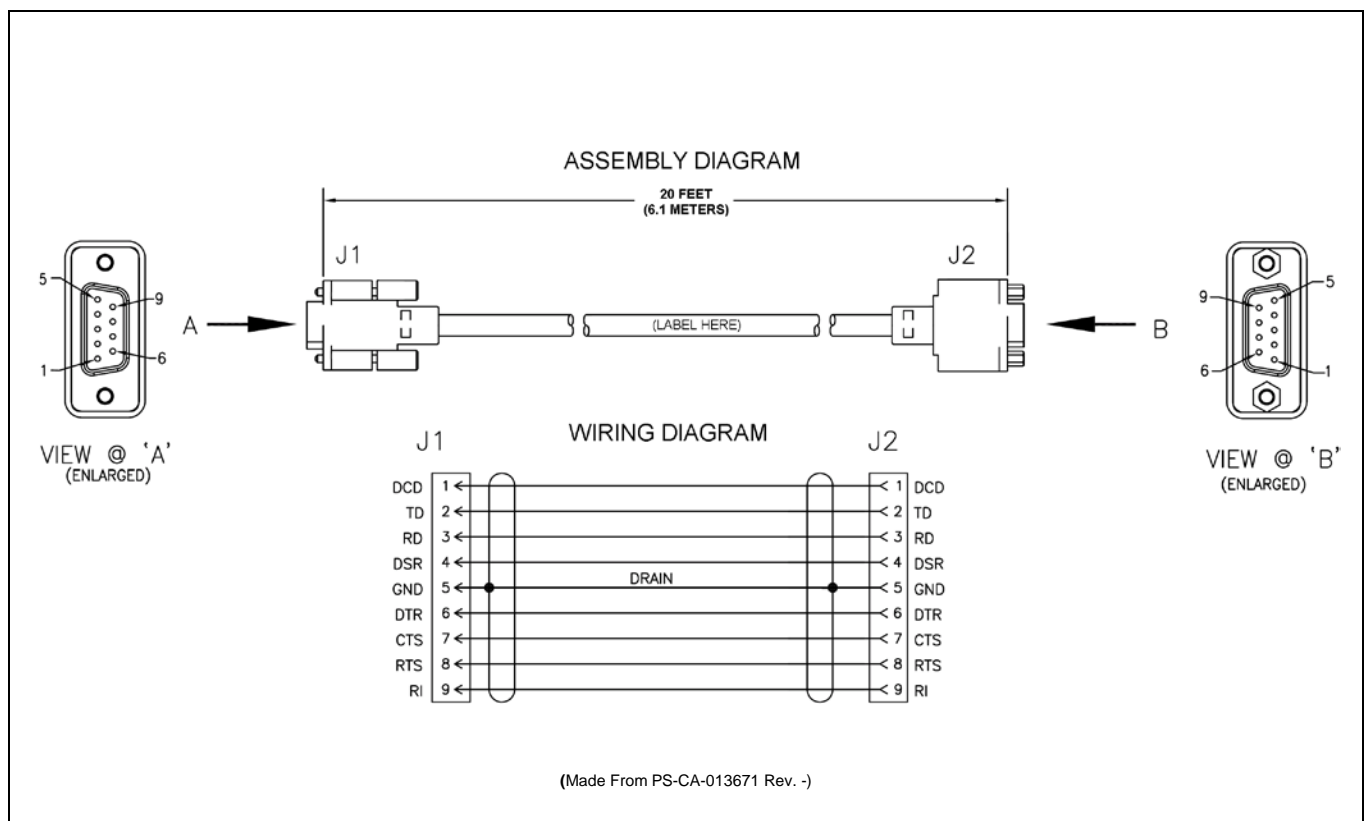

Figure 11-2: Serial Programming Cable CA-013671-020
Serial Programming Cable CA-013671-020 (20 feet long) can be used to program and configure the M5300 mobile radio via a Personal Computer (PC). Also, the cable can be used to extend GPS NMEA-formatted serial data connections available at connector P5 of the radio's Options Cable. The cable's assembly and wiring diagrams are shown in Figure 11-2 below.